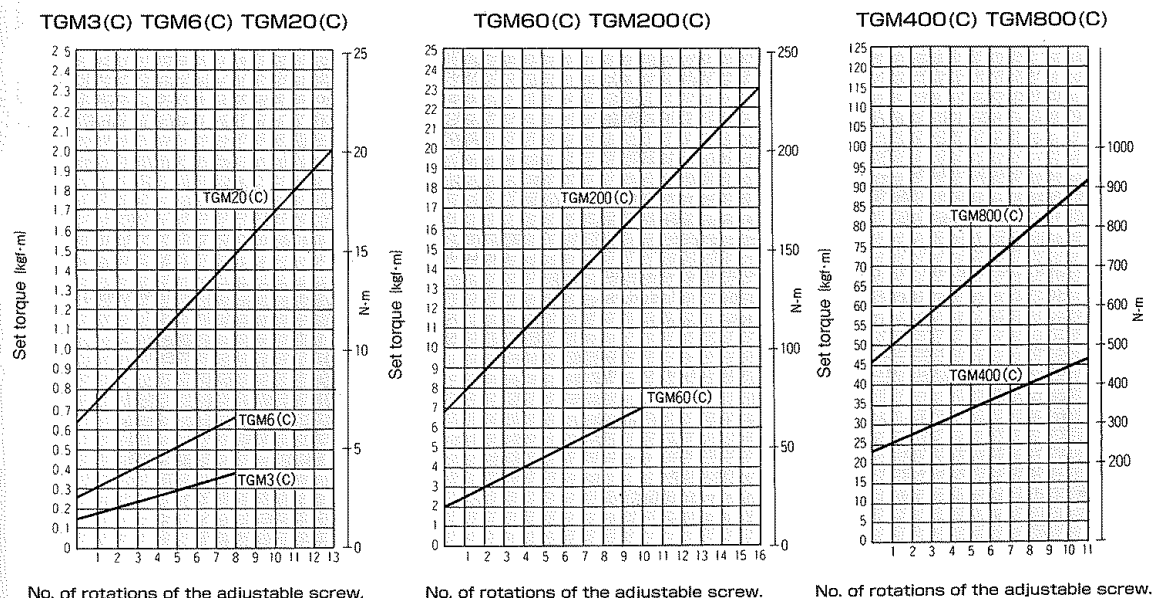

Fig.8
- ① The minimum torque value is set for shipment. The top surface of the adjustable screw is adjusted to the minimum torque (torque indicator 1) printed on the nameplate. This is the base tightening quantity.
- ② Before setting the torque, apply Loctite 242 or an equivalent adhesive to the exposed surface of the adjustable screw's thread portion. After setting torque, it becomes anti-loosing.
- ③ From the "Tightening Amount-Torque Correlation Chart", find the adjusting screw tightening angle equivalent to the predetermined trip torque. Set at 60° toward the determined tightening value, then install to the machine and conduct a trip torque. Each product's trip torque does not always correspond with the value listed in the "Tightening Amount-Torque Correlation Chart", so use these values only as a rough guide. (Table 6 and Fig.8)
- ④ Do not set torque lower than the minimum torque (torque indicator 1 on the nameplate) . If it is necessary to use a torque level lower than the minimum, use a weak spring type.
- ⑤ Do not turn the adjusting screw when the Shock Guard is in a tripped state.
- ⑥ Torque setting before shipment is available.